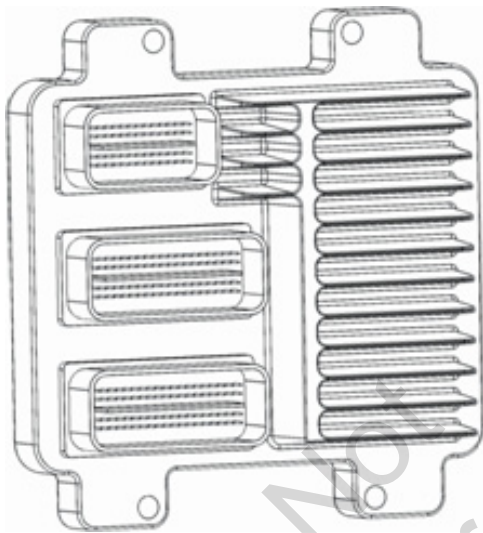

Figure 3
2. Unlock the connectors, unplug the wire harness from the ECM (Figure 3) and remove.